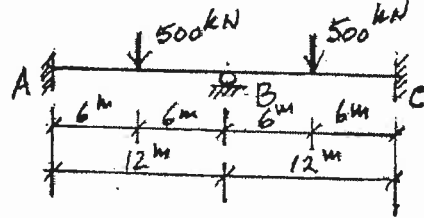

FIGURE 4
5. The two-span continuous welded plate girder, shown in Figure 4, is to be designed using the stiffened-web approach. Design a cross-section suitable for flexure, shear, and their interaction.